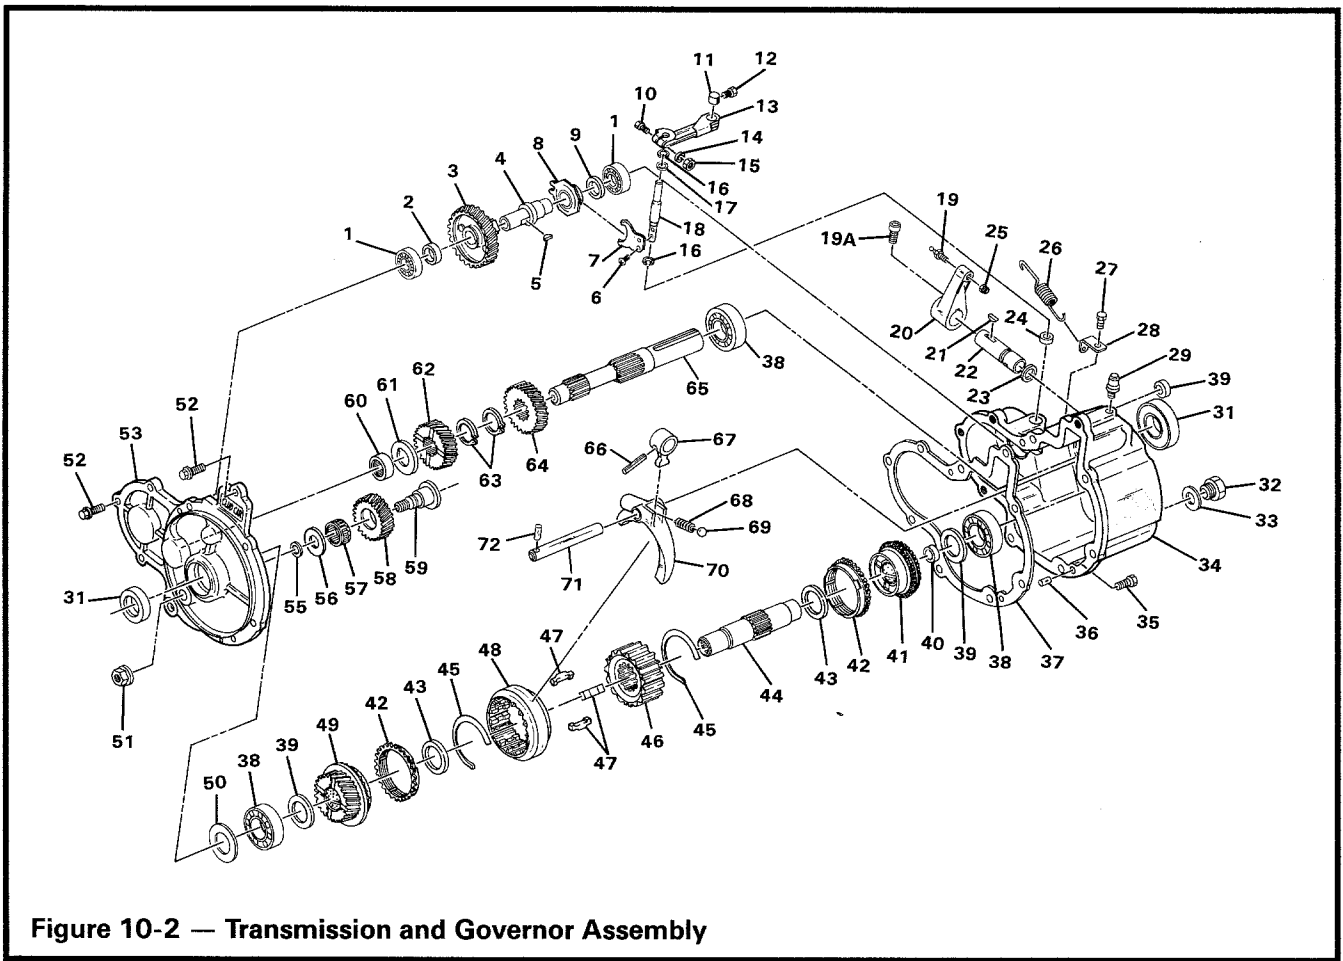

Figure 10-2 — Transmission and Governor Assembly
1. Remove drain plug (32) and gasket (33) and drain and dispose of oil properly (**Figure 10-2**).
2. Remove spring bracket (28) and governor spring (26).
3. Remove external governor arm (13) by loosening nut (15) and sliding off governor shaft (18).
5. Remove five retaining bolts (35 & 52) from the cover (53) of the transmission and remove the cover.
6. Remove gasket (37) and discard.